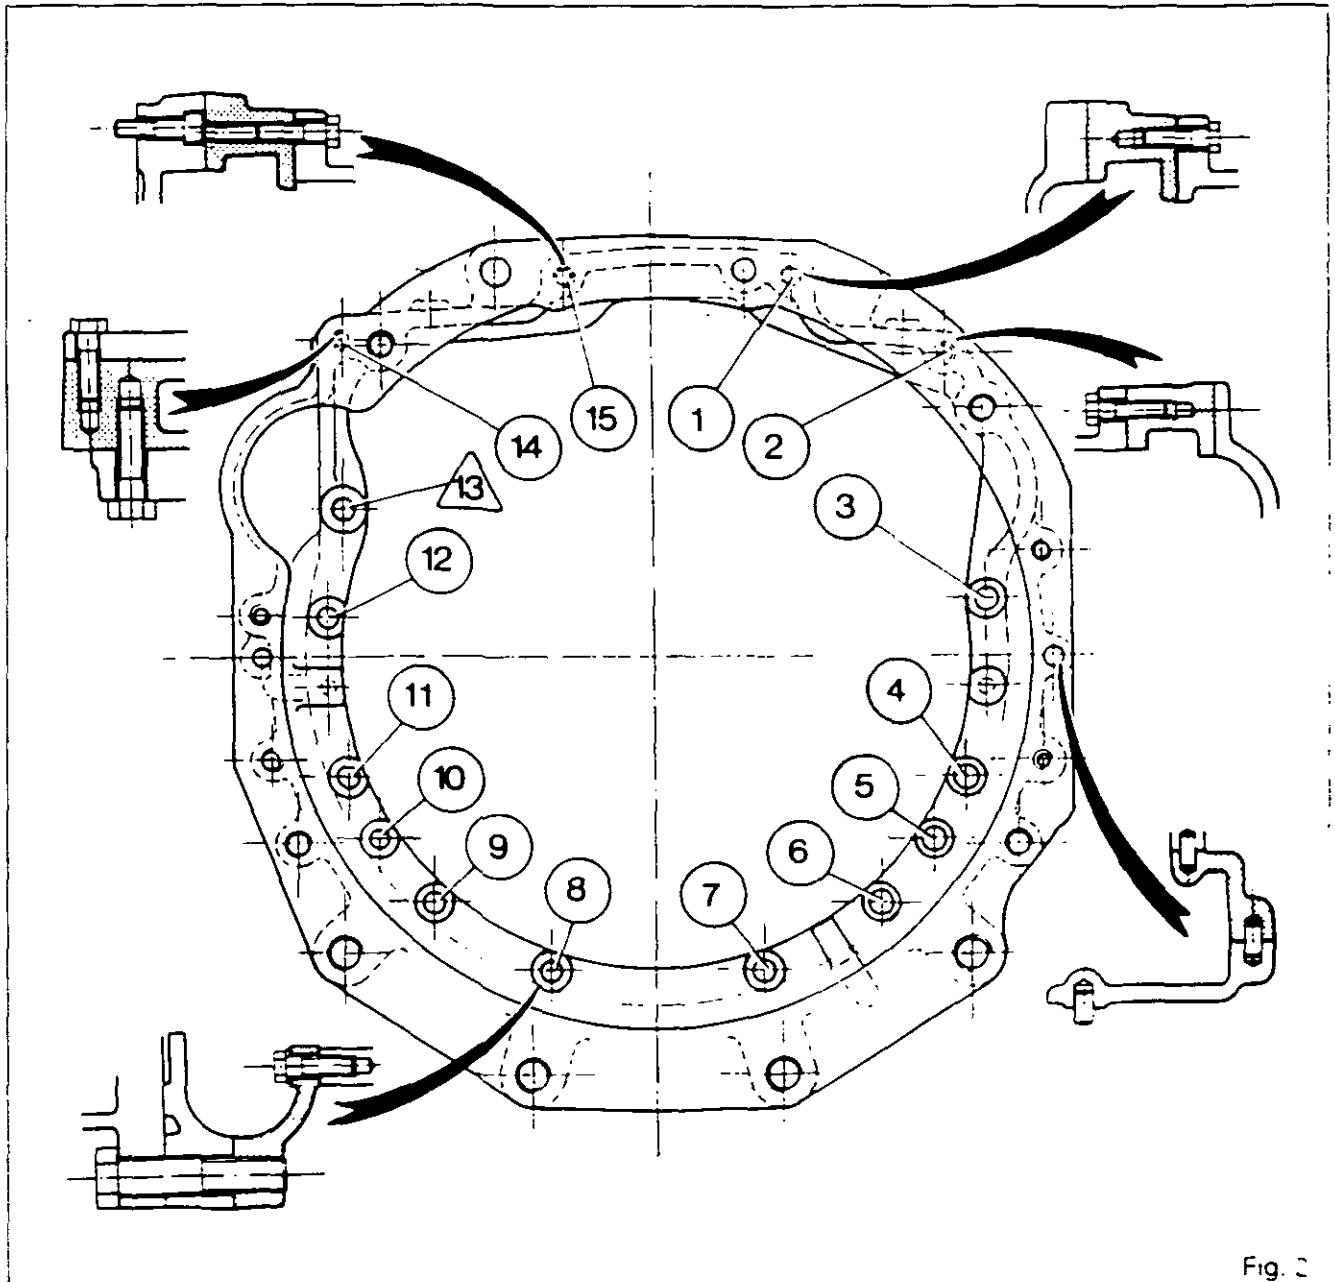

Fig. 2
**Note: Make sure that the countersunk head screw /13\ is positioned in the correct hole (Fig. 2).**